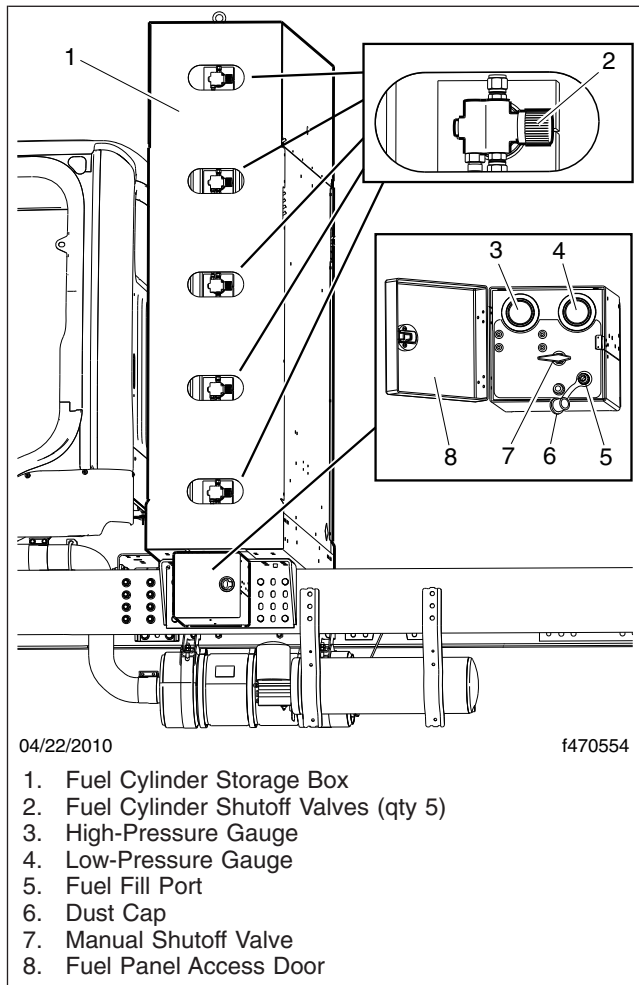

Fig. 16.1, CNG Fuel Cylinder Storage Box (5-cylinder system shown)
2. Ensure all fuel cylinder shutoff valves are open. See **Fig. 16.1**.